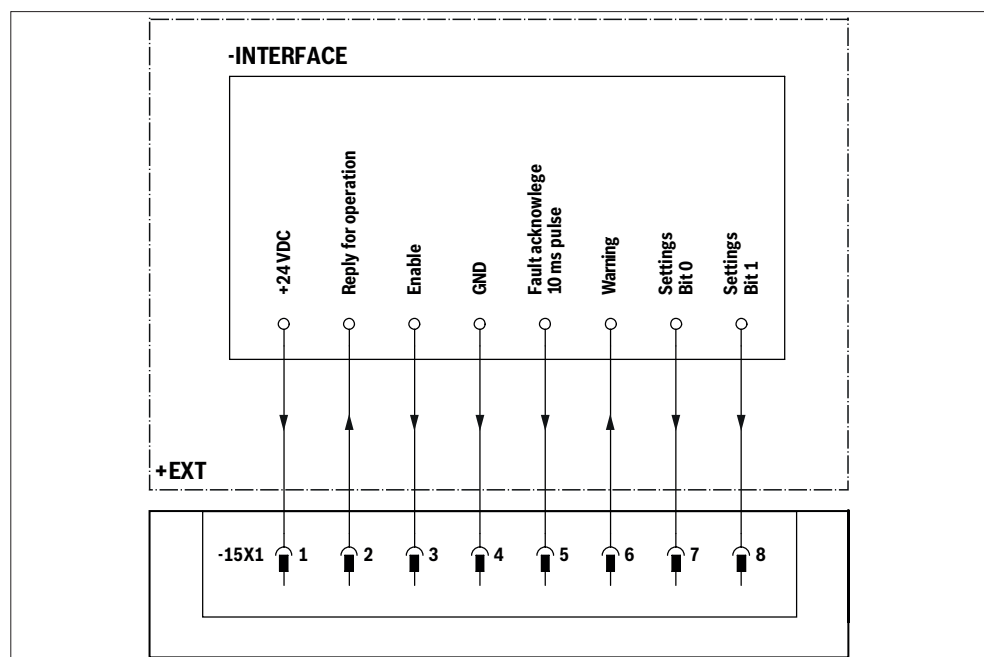

Fig. 21: Assignment of port 15X1: 24 V interface
- Use the mating connector as an interface to the higher-level machine control as shown in Fig. 21: